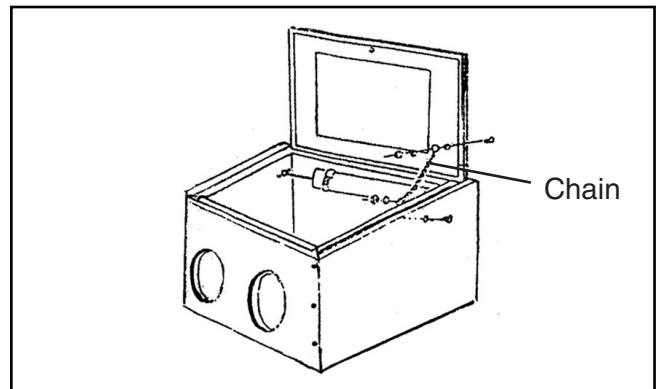

Figure 6. Window chain.
6. Install the chain to the window and cabinet with the screws and nuts (Figure 6).